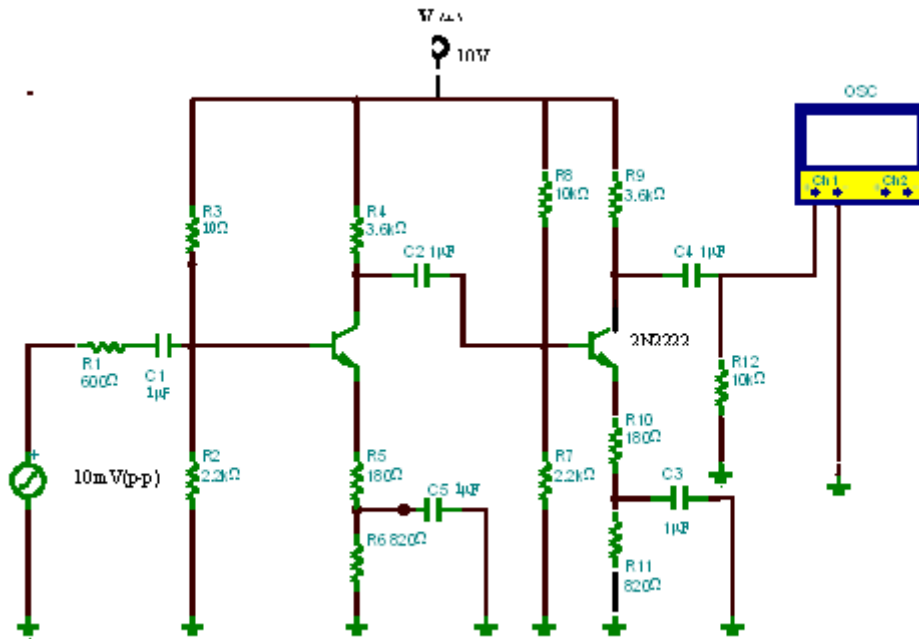

Fig. 2.1 Two-stage RC coupled amplifier
1. Assemble the circuit shown in Fig.2.1.